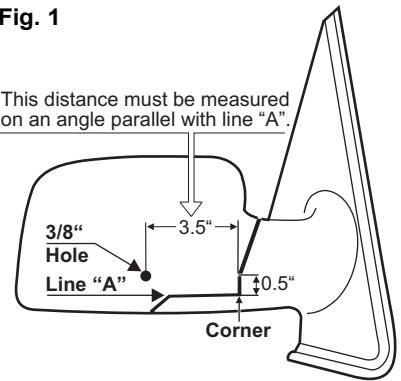

Fig. 2
6. Now position the mirror assembly so that its mounting surface is facing the installer. Locate the rubber extrusion projecting from the rubber mounting gasket. Cut an opening through the outer-most surface so that the harness cable can pass through (See Fig. 2).